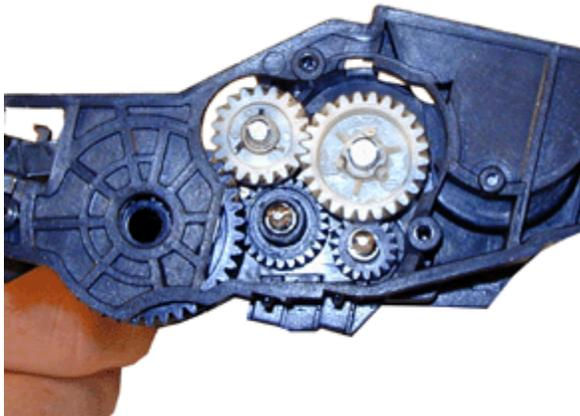

FIGURE 11
- Note the location of the gears on the right side. Remove the two large white gears. The metal shaft may come loose with the gears as they are removed (or stay on the end cap). Be very careful not to lose it! See Figure 11